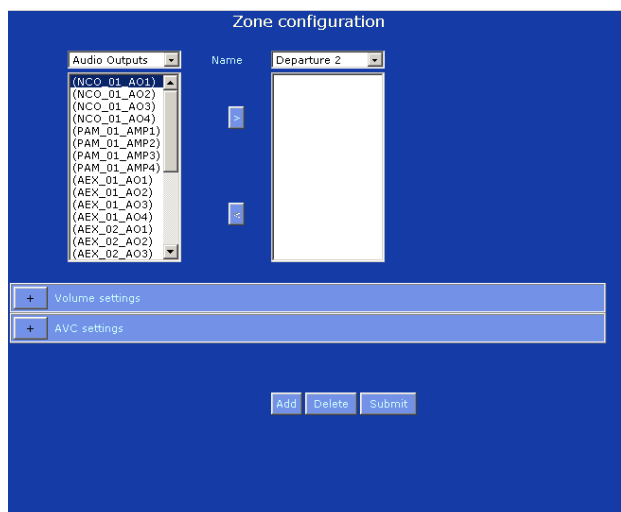

figure 36.6: Add zone, step 4
- 4 Click the *OK* button. A screen similar to the one in figure 36.6 appears in the main frame of web interface.